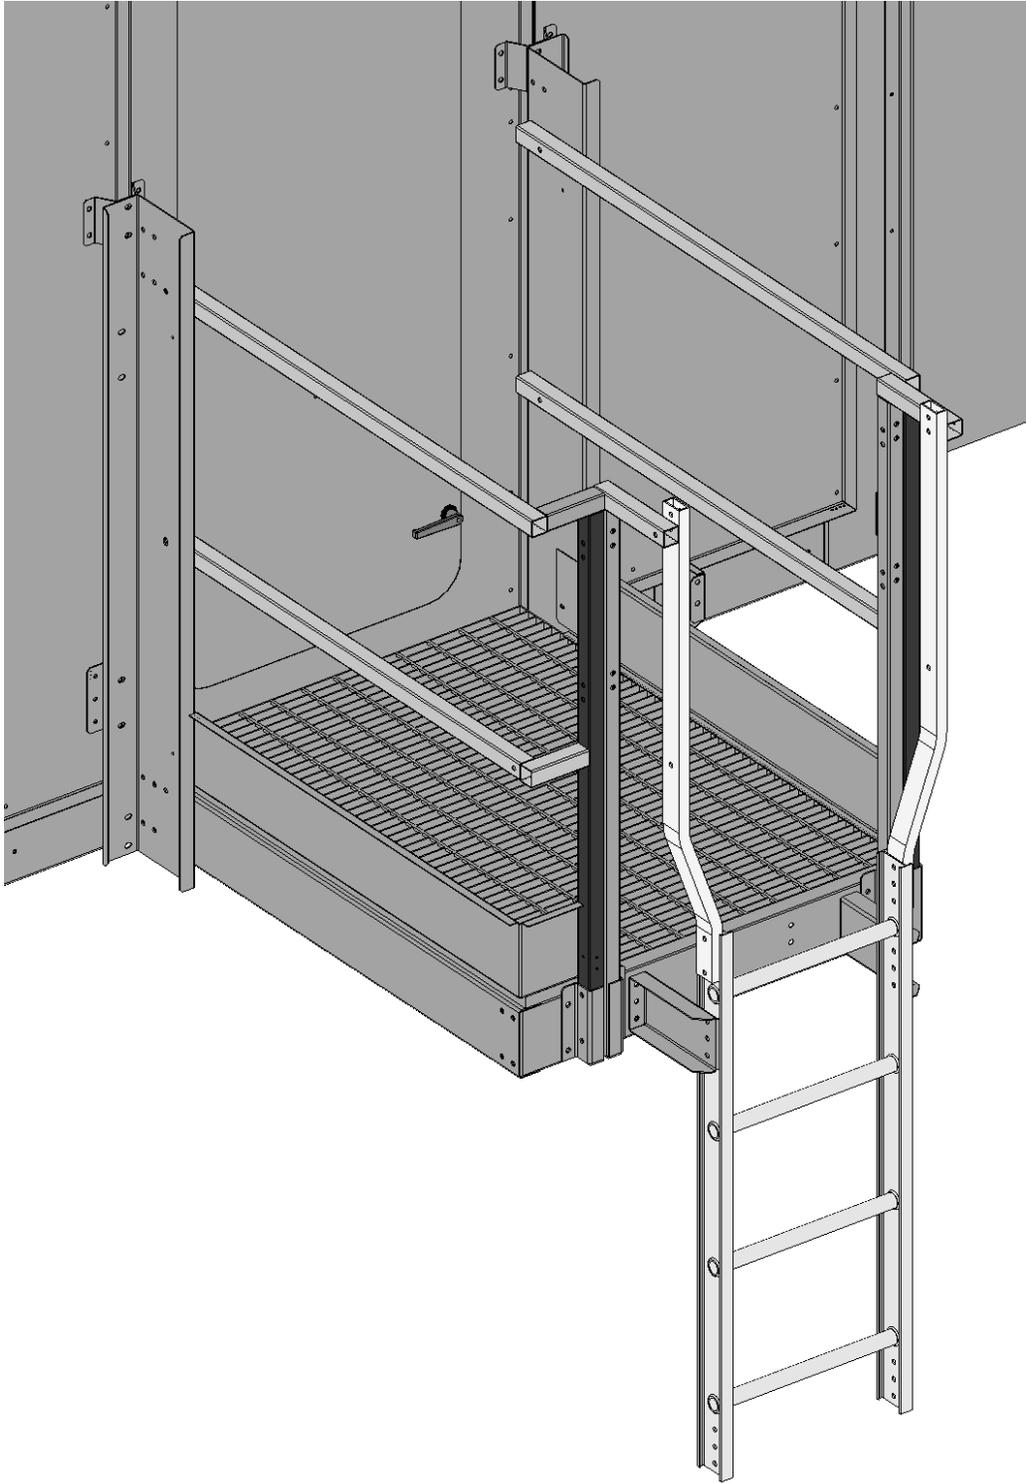

Figure 281A. Access Door Platform Location – Note, ladder safety cage not shown for clarity
This section sets forth the procedures for installing the access door platform (illustrated in **Figure 281A and 31B**). Platform location may depend on site specifications and can be on either side of the unit. Handrails and toeboards are pre-assembled to the access door platform. See submittal for job-specific details.
1. Starting with the factory assembled access door platform shown in **Figure 281A and 32B**, align the platform railings and platform with the factory-installed brackets on the customer-specified platform installation location per the submittal.